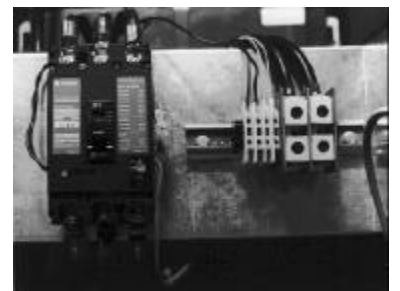
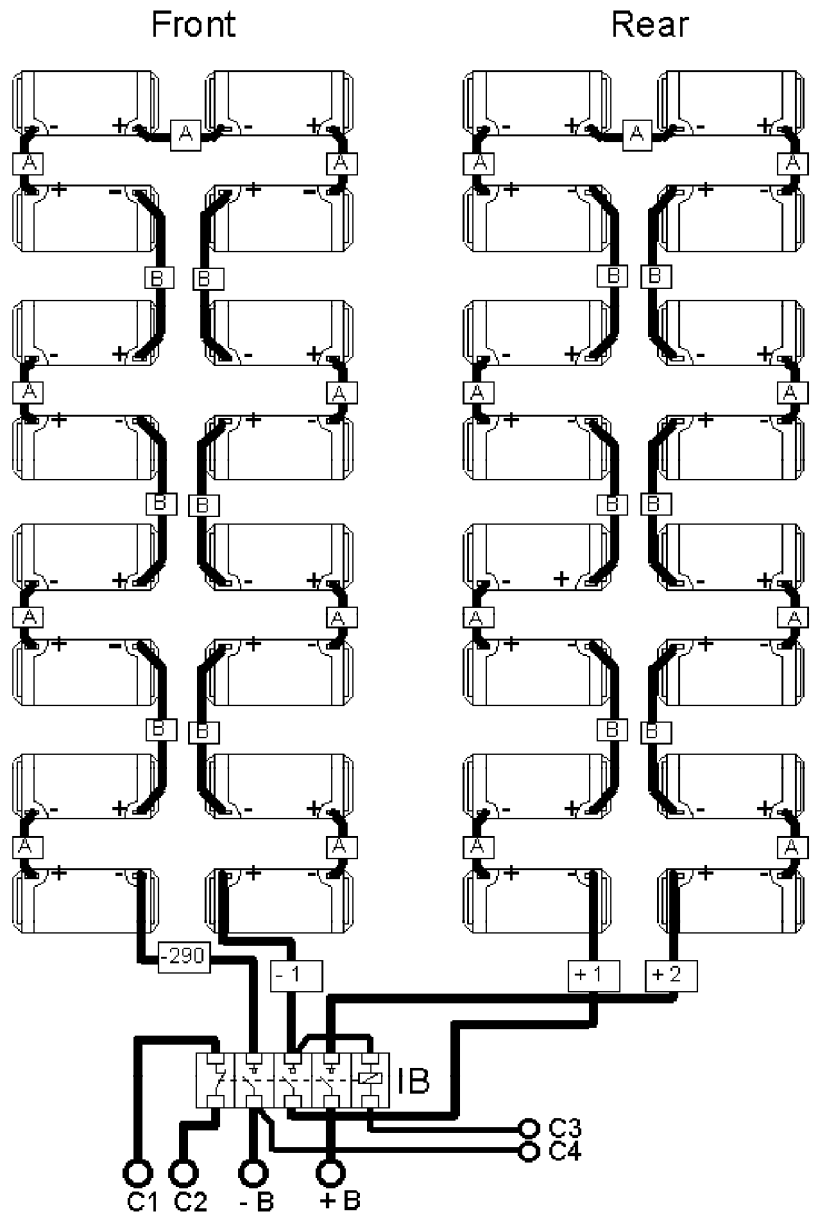

FIG. 1.12.8 B3/65: switch IB and terminals
FIG. 1.12.9 B3/65 internal electrical connections
- Connect the battery blocks on the various levels to the battery switch **IB**, and **IB** to the terminals, as shown in FIG. 1.12.8 and FIG. 1.12.9